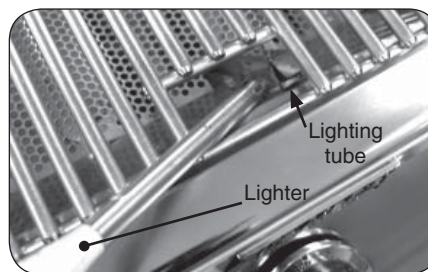

Fig. 17-2 - Manual lighting
2. Insert either a burning long-barrel butane lighter or a burning long-stem match through the cooking grid opening to the top of the lighting tube. (Fig. 17-2). For backburners, hold the flame against the surface of the backburner. For charcoal burners, hold the flame near the burner.